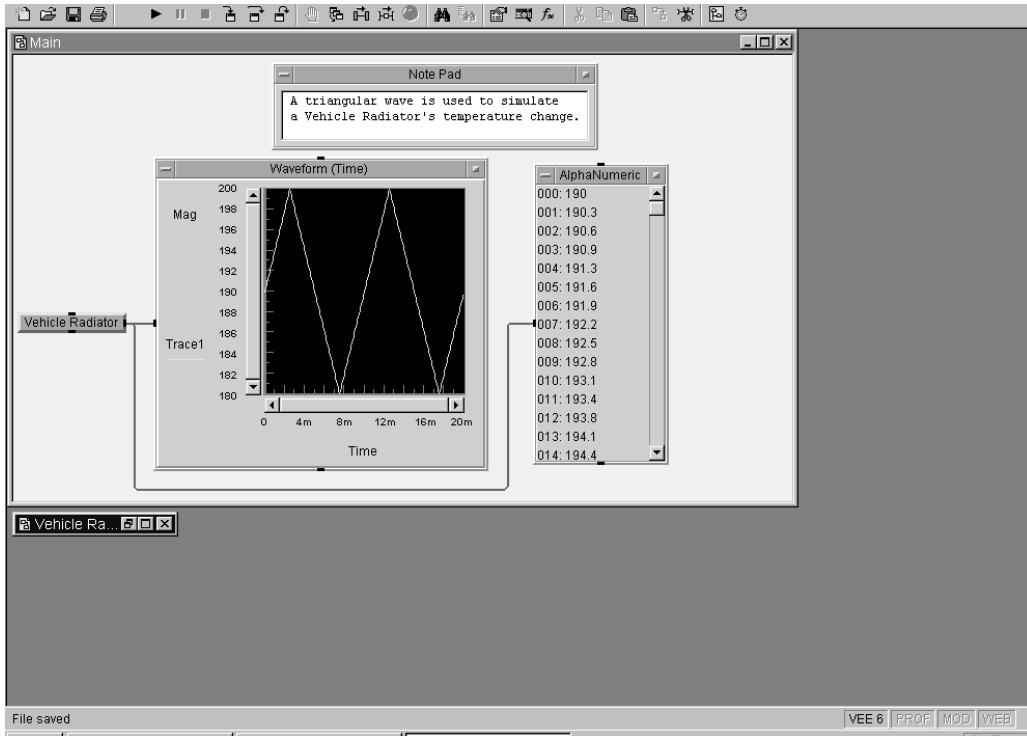

Figure 2.7. Result of Print Screen
11. Select Menu Bar => File => Print Screen. See Figure 2.7.